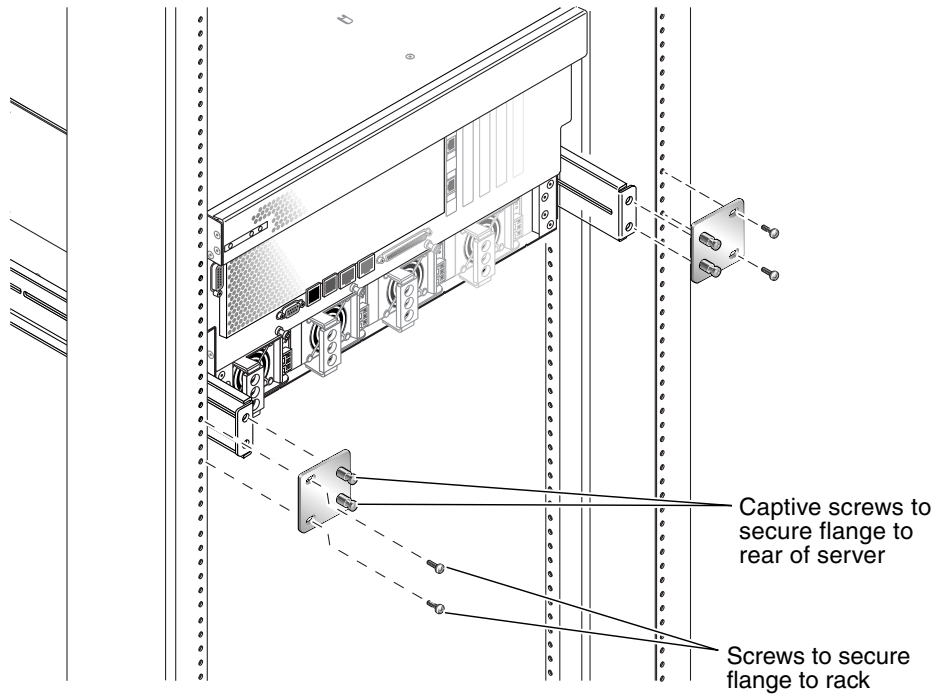

FIGURE 3-22 Securing the Rear Mount Flange
11. At the rear of the rack, use the captive screws to secure the two rear mount flanges to the rear mount support brackets that are attached to the server (FIGURE 3-22).
12. Using two screws for each rear mount support bracket, secure the rear mount support brackets to the rear of the rack (FIGURE 3-22).